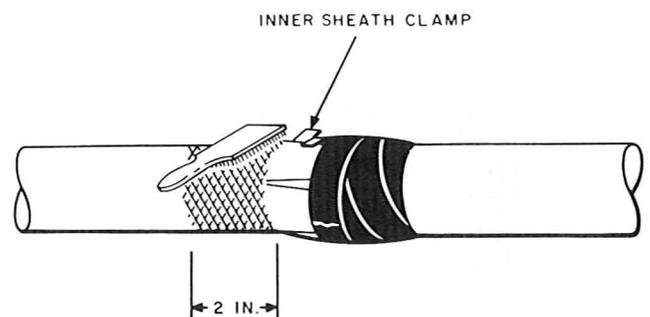

Fig. 18—Scuffing Sheath
7.10 With a B Carding Brush, thoroughly scuff the sheath in the area where the sealing tape collar will be applied (Fig. 18) to the length of the cable. File away any ridges which may be present.